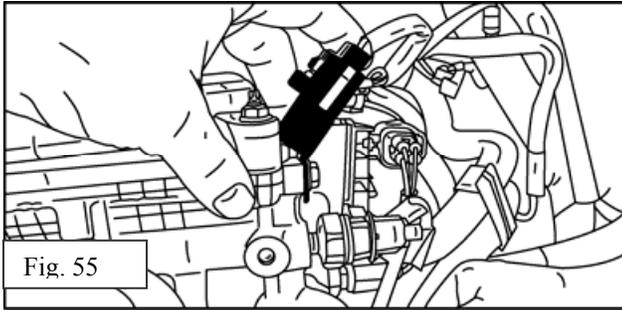

Fig. 55
- (a) Rotate radio noise suppressor up at approximately a 45 degree angle. Fig. 55.